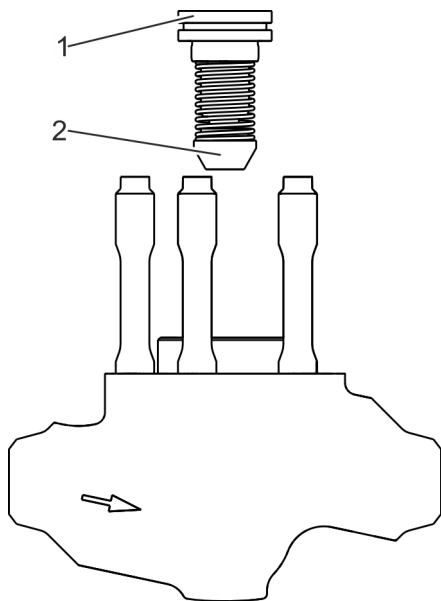

Fig. 9: Inserting the disc
- 10.** Insert the guide bushing (Fig. 9/1) with inserted pressure spring and check valve disc (Fig. 9/2) into the body.